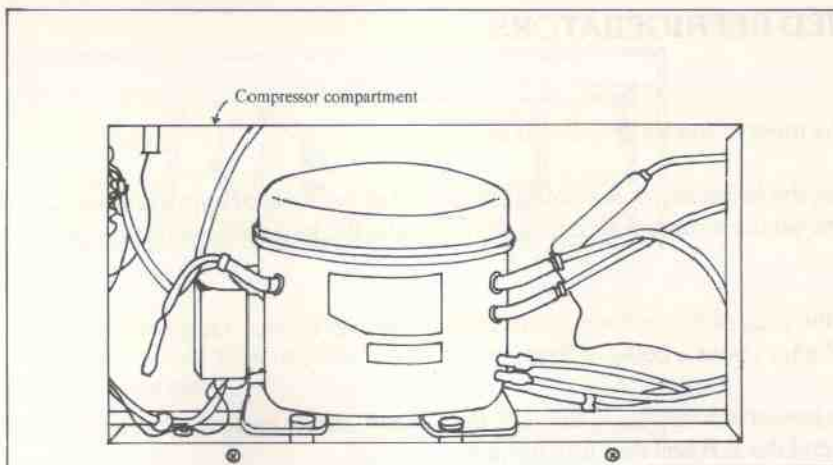

Fig. 12
7. Examine the compressor compartment. (Fig: 12) Check carefully for any damage, dislocation or looseness etc. of the components.